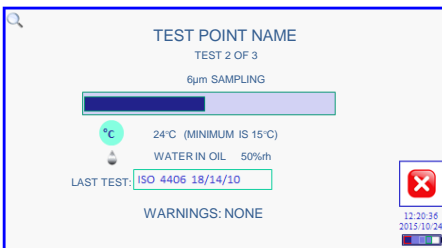

Figure 3: Test Progress Screen
- Each tests takes approximately 6 minutes. A progress bar is displayed during test. Should any test parameters be exceeded, a 'Warning Label' will be displayed but the test will continue. (Fig. 3)